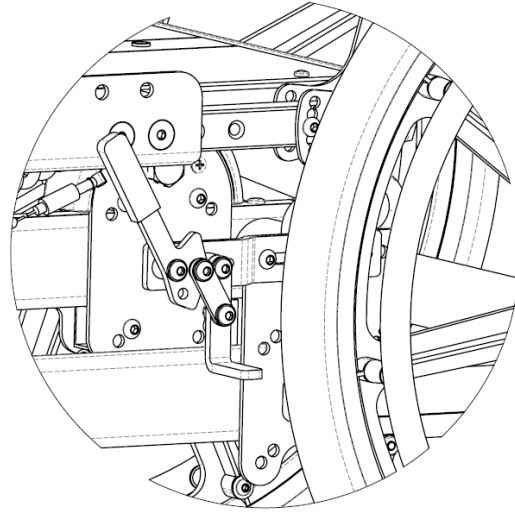

Figure 10.23: *Pull to Lock Wheel Locks*
2. To engage the pull to lock wheel lock (see Figure 10.23), pull the lever towards the wheel until it locks into place.